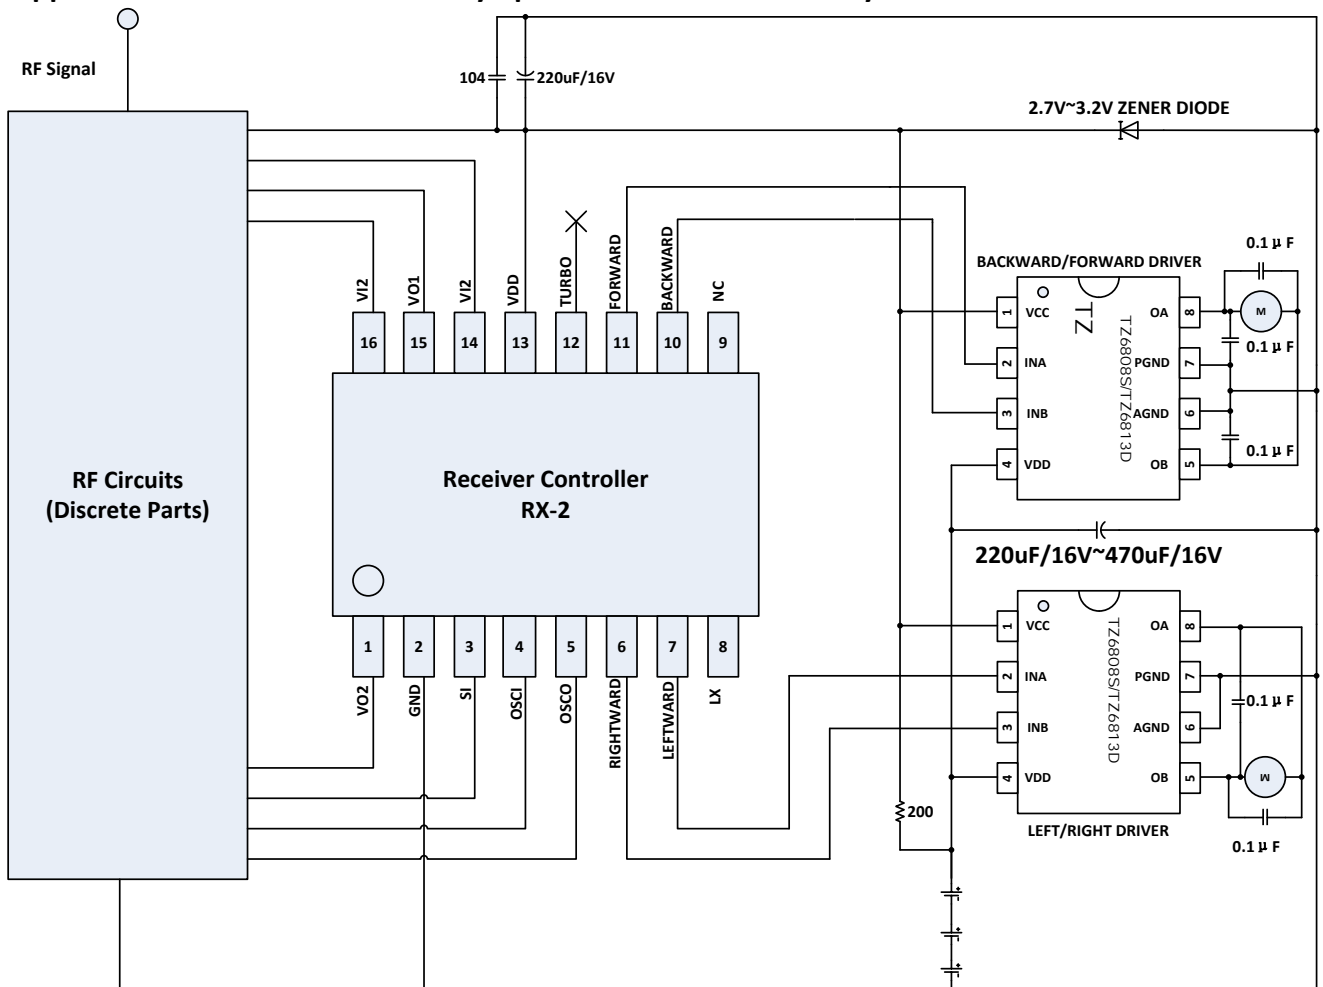

Fig. 2 Schematic diagram of application circuit for 4-battery operated remote control toy car
As shown in Fig.2, the schematic diagram of application circuit for 2-battery operated remote control toy car uses 2 ZT6808S circuits, which are used to drive the forward-and-backward steering motor and the right-and-left steering motor, respectively. Under normal conditions, RX2 power supply VDD utilizes voltage stabilizing diode design to make sure that the circuit operates at safety voltage. In order for RX2 to obtain a stable power supply, RX2 power supply
6. Current of front wheel steering motor is lower, and peak voltage generated by front wheel steering motor is lower than that by rear wheel steering motor. Due to higher supply voltage, it is still possible to cause the circuit to be damaged. It is suggested to connect capacitor 104 either between output terminals OA and OB, or as shown in Fig. 2.
7. In the case of 3-battery, determine if it is needed to connect capacitor for front wheel steering motor in light of actual conditions. For rear wheel steering, however, it is recommended to connect as shown in Fig. 2.